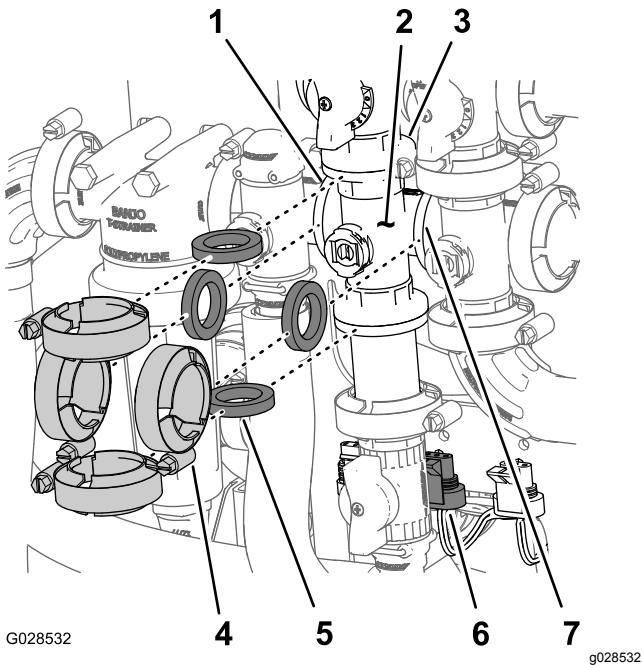

Figure 90
1. Remove clamps and gaskets that secure the manifold for the agitation valve (Figure 90) to the agitation bypass valve, rate control valve, master boom valve, and adapter fitting (agitation throttle valve).